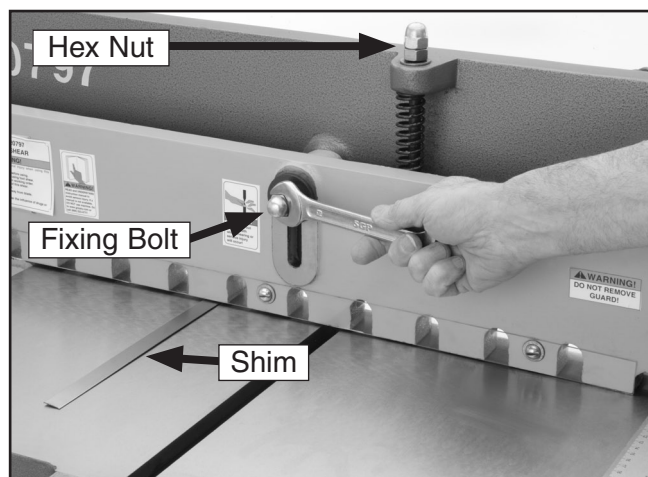

Figure 16. Tightening hold-down.
1. Tighten the hex nuts on the springs to raise the hold-down off the table (**Figure 16**).